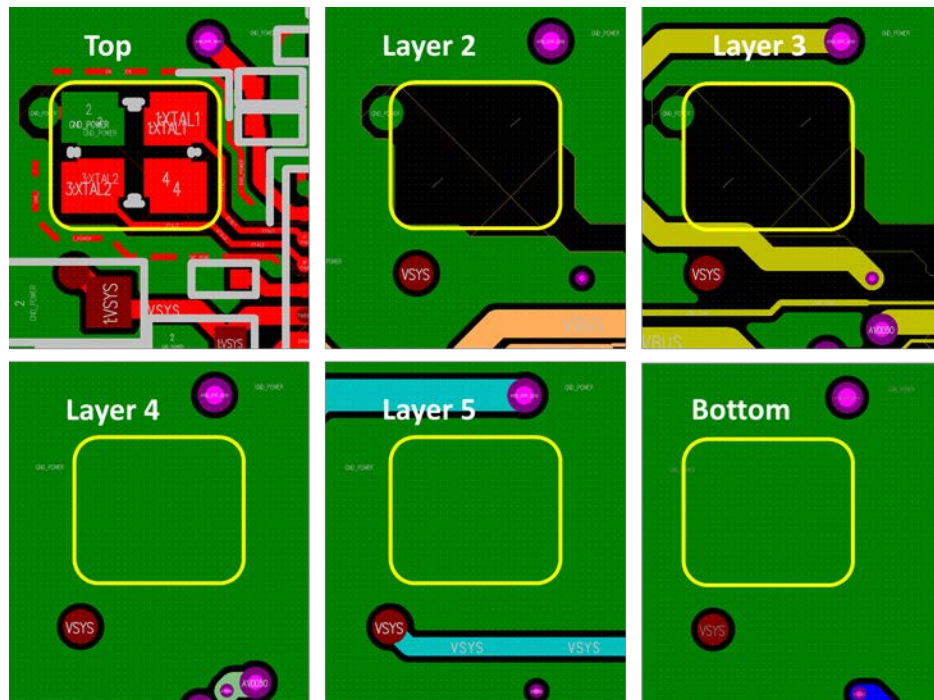

Figure 6. Crystal 26M of the AB1568 EVK daughter board
- The crystal and its trace directly refer to the global ground. Keep out L1&L2&L3 ground, please refer to Figure 6.